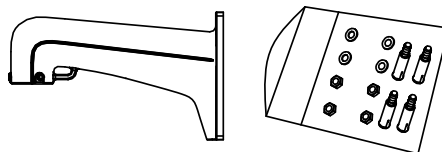

Figure 2-4 Wall Mounting Bracket
- The bracket in Figure 2-4 is the recommended bracket for this series of speed dome, and a pendant adapter is required if any other bracket is selected. The dimension of pendant adapter is  $G1\frac{1}{2}$ .
- 1) Get the bracket and screws from the packing box as shown in Figure 2-4.